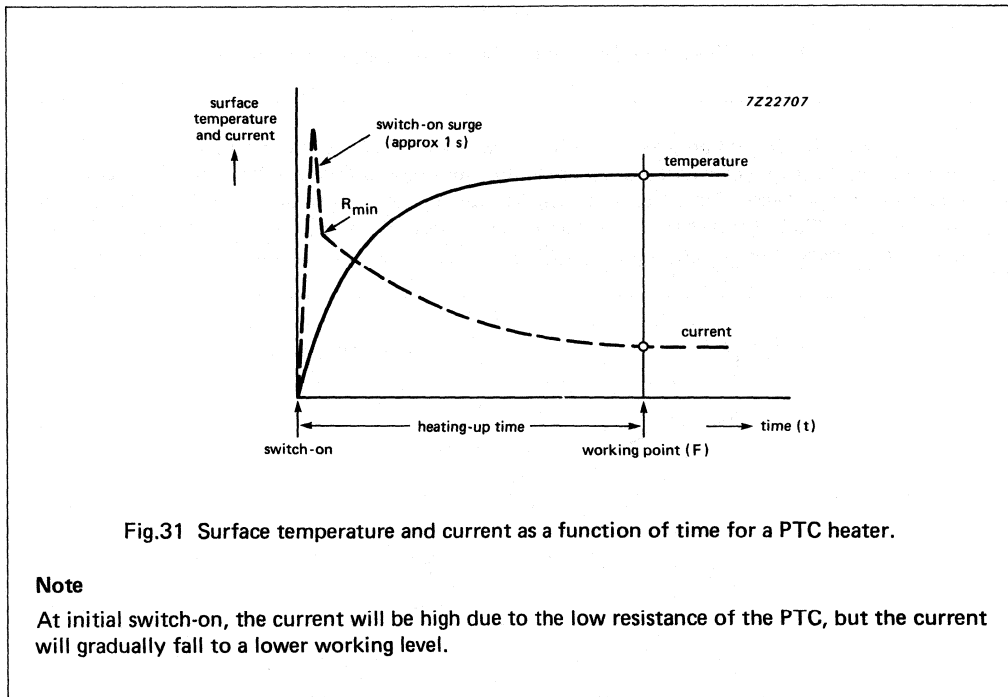
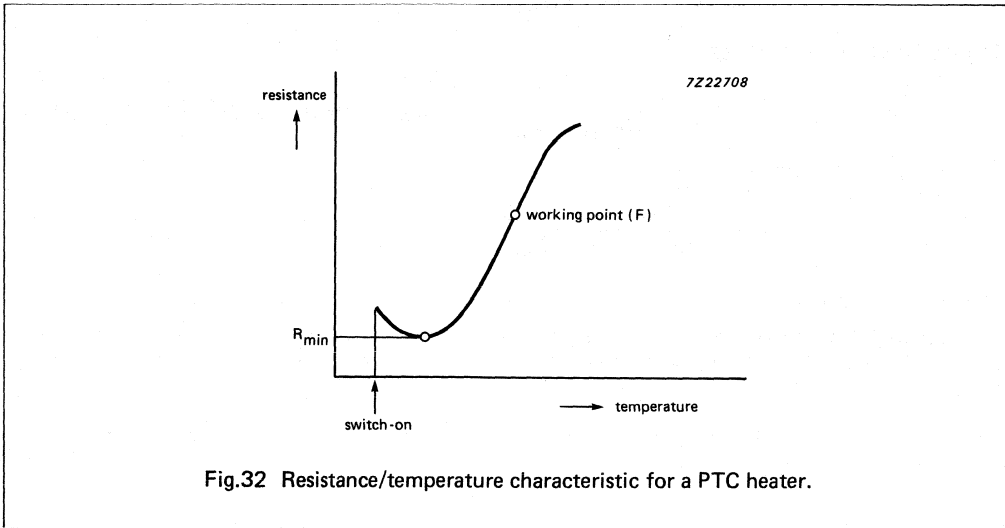

Fig.31 Surface temperature and current as a function of time for a PTC heater.
Fig.32 Resistance/temperature characteristic for a PTC heater.
The relationship of current against temperature and time is shown in Fig.31. It can be seen that the temperature rises to its working point (F) over a period of up to 20 minutes if mounted in a standard test jig.
It can be seen from Fig.31 that, for normal mounting conditions, the initial current surge lasts for approximately 1 second, until the resistance value R_{min} is reached. The PTC heater then continues to heat up. The relationship between resistance and temperature is shown in Fig.32.